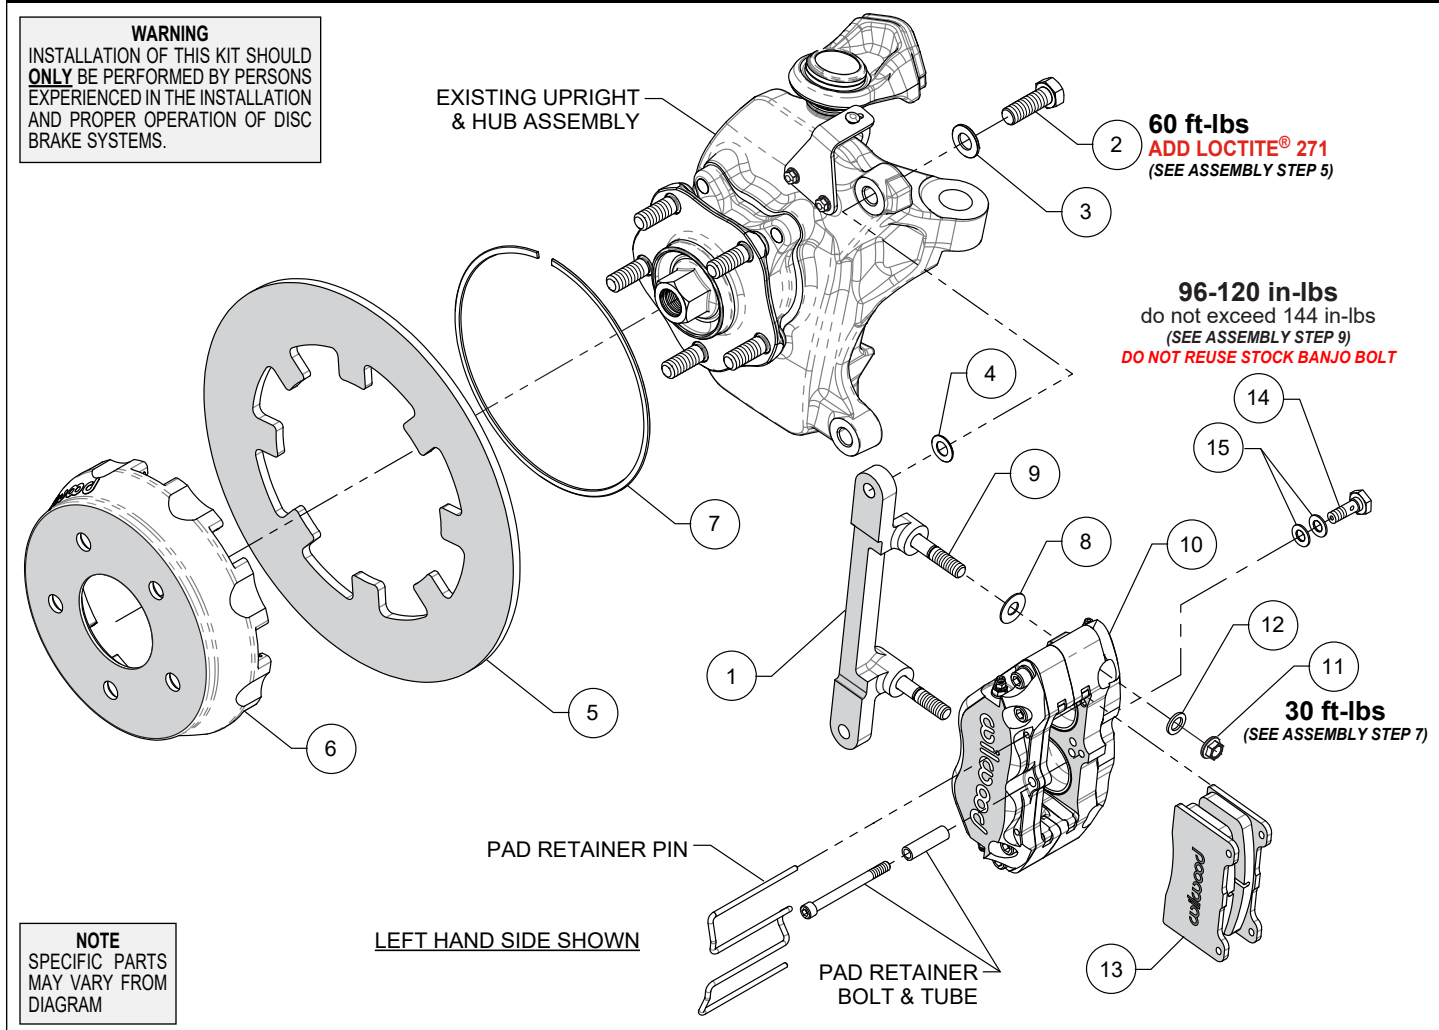

Figure 1. Typical Installation Configuration
NOTE: Numbers in parenthesis refer to the parts list and Figure 1 on the preceding pages.
STEP 1 The caliper mount bracket (1) should initially be installed with clean, dry threads on the mounting bolts. Orient the bracket, as shown in Figure 1 and Photo 1, and install using bolts (2) and washers (3). Initially place one .033" thick shim (4) on each bolt between the bracket and upright, Figure 1. Temporarily tighten the mounting bolts. **NOTE:** The bracket must fit squarely against the mount bosses on the upright. Inspect for interference from casting irregularities, machining ridges, burrs, etc. Later, after the caliper alignment has been checked, the mount bolts will be secured using red *Loctite*[®] 271.
STEP 2 Position the rotor (5) onto the hat (6), making sure the rotor lugs fit into the recesses of the hat, as shown in Photo 2.
STEP 3 Secure rotor to the hat using the snap ring (7) by installing the ring into the groove in the hat, as shown in Photos 3 and 4. Carefully inspect snap ring to ensure complete engagement in the groove.
STEP 5 Initially place one .035" thick shim (8) on each stud (9) between the caliper and the bracket (1), as shown in Figure 1 and Photo 6. Mount the caliper (10) onto the bracket (1) using lock nuts (11) and washers (12), Figure 1. Temporarily tighten the lock nuts. View the rotor through the top opening of the caliper. The rotor should be centered in the caliper, Photo 7. If not, adjust by adding or subtracting shims (4) between the bracket and the upright. Always use the same amount of shims on each of the two mounting bolts. Once the caliper alignment is correct, remove the bracket mounting bolts (2) one at a time, apply red *Loctite*[®] 271 to the threads, and torque to value shown in Figure 1.
STEP 6 Remove the pad retainer clip from the caliper (10). Insert the brake pads (13) into the caliper with the friction material facing the rotor, as shown in Photo 8.
STEP 7 Check that the top of the brake pad is flush with the outside diameter of the rotor, Photo 9. If not, adjust by adding or subtracting shims (8) between the caliper and the bracket. After the caliper pad height is set, torque the caliper lock nuts (11) to value shown in Figure 1. Reinstall the pad retainer bolt, tube, and clip, Photo 10.
STEP 9 Attach brake line to caliper. Connect OEM brakeline to caliper using banjo bolt (14) and crush washers (15). Do not use lubricant or thread sealant on banjo bolt (14). Torque to minimum value shown in Figure 1. Check for leakage, increasing torque only to stop leakage without exceeding maximum specification. Replace crush washers and banjo bolt whenever reassembly is required. **Ensure hoses are routed to prevent contact with moving suspension, brake or wheel components.**